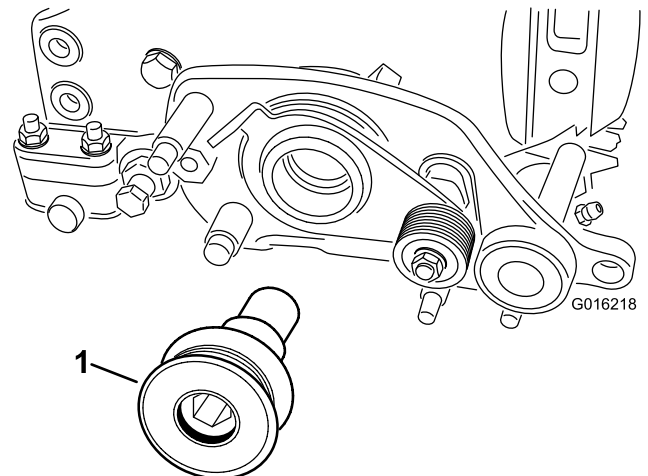

Figure 10
25. Secure the groomer drive pulley to the reel shaft on the right side of the reel and torque it to 170 N·m (125 ft-lb) (Figure 10).